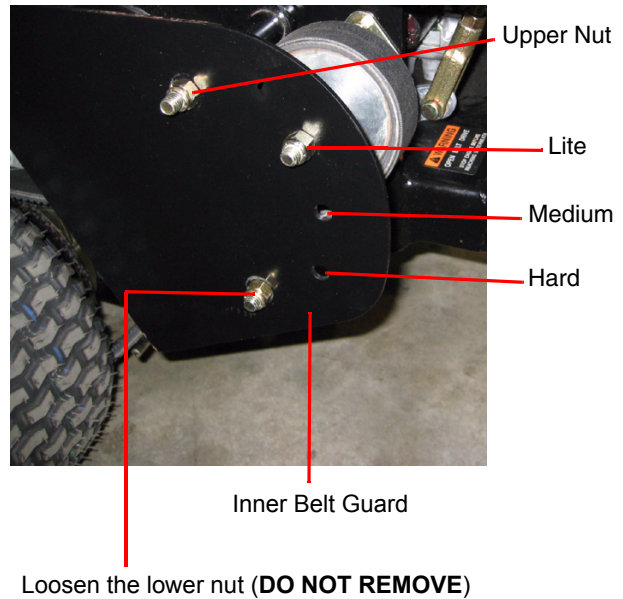

Figure 25
8. Reposition the inner belt guard, reinstall the upper nut, and retighten the lower and upper nuts. (See Figure 25)